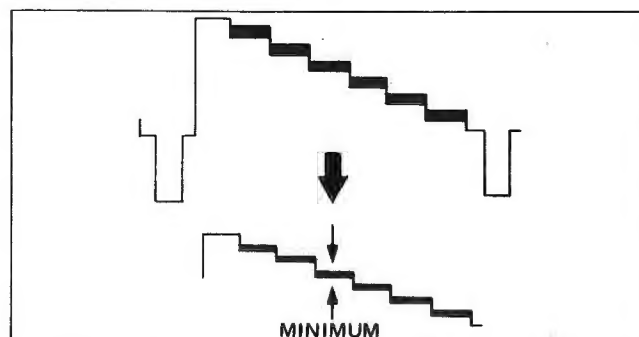

Fig. C-1
3. Adjust the 3.58 MHz TRAP (T201) so that the 3.58 MHz signal is minimized. (Fig. C-1)
4. Regulate the COMB FILTER adjustment VR to further minimize the 3.58 MHz elements. (Fig. C-1)
5. Repeat steps 3 and 4 to fully minimize the 3.58 MHz elements. (Fig. C-1)